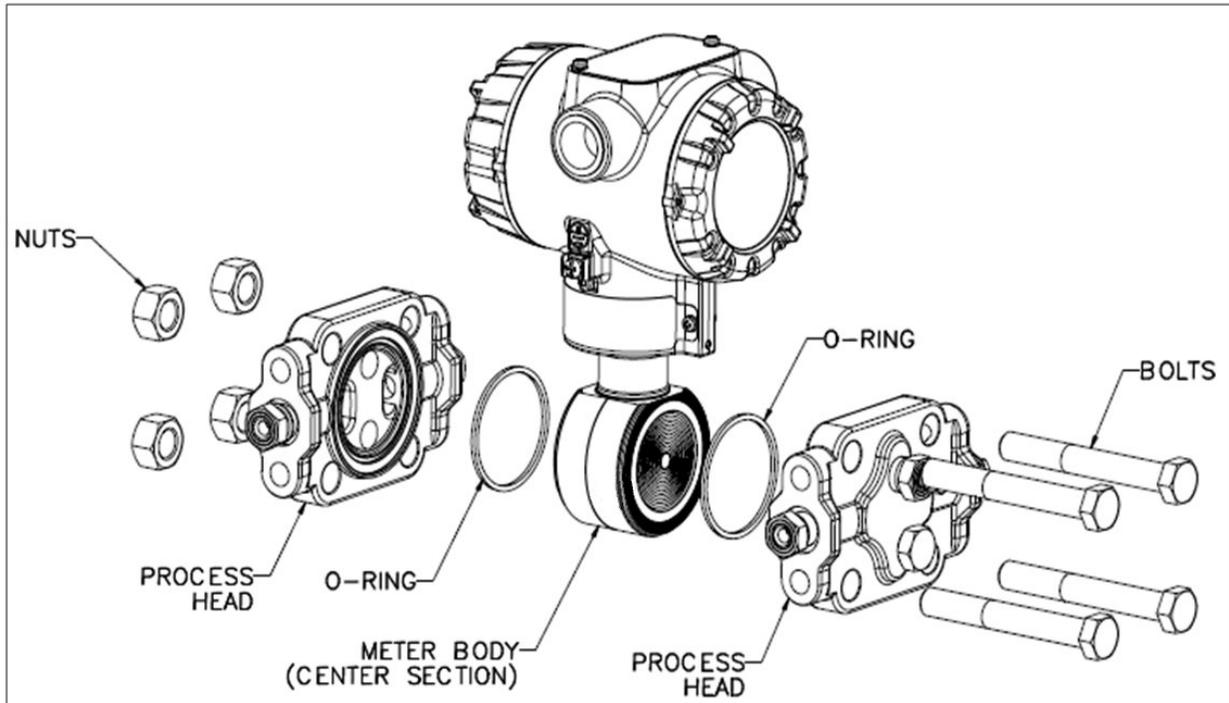

Figure 19 – DP Transmitter Head Disassembly
The following procedure comprises the general steps for inspecting and cleaning barrier diaphragms. You may have to modify these steps to meet your particular process or transmitter model requirements. Figure 19 shows an exploded view of a Differential Pressure (DP) Transmitter meter body for reference. For disassembly/reassembly purposes, Gauge Pressure (GP) and Absolute Pressure (AP) Transmitters are similar.